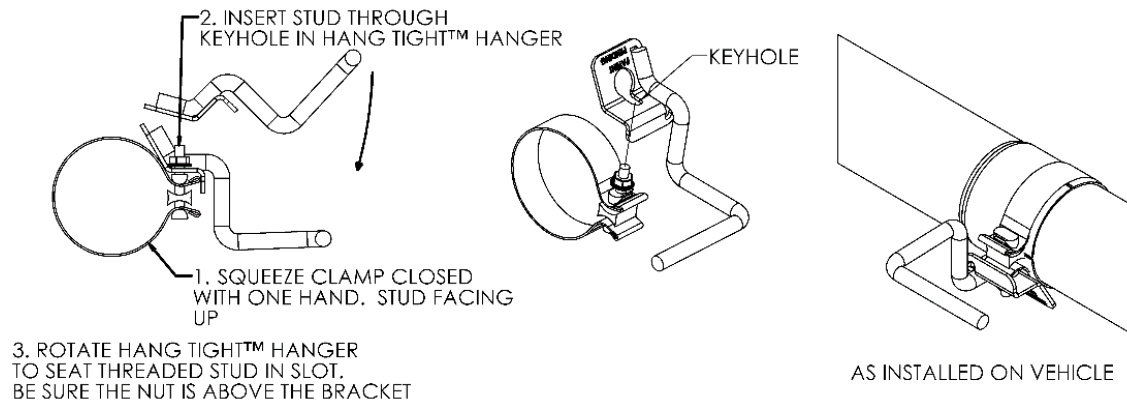

Figure 2
2. Install the **4" to 5" Extension Pipe (46.75")** over the **Down Pipe** securing it with the **4" Band Clamp** and **Front Hang Tight™ Hanger** (See figure 2 for Hang Tight™ instructions, Hang Tight™ hanger not exactly as shown). Install the **32" Extension Pipe** onto the **4" to 5" Extension Pipe** securing it with a **5" Band Clamp**. The combination of these two **Extension Pipes** provides the required length to fit a Quad Cab Long Bed truck, for Quad Cab Short Bed cut the **32" Extension Pipe** to 16" and for Regular Cab models cut down to 12".